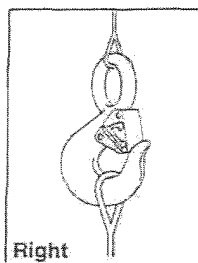
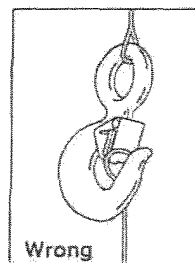

Figure 3
Figure 4
- Always make sure the hook supports the load. (See Figure 3). The latch must never support the load (See Figure 4).